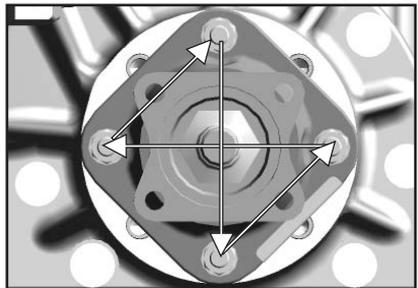

Fig. 6
- e. Tighten and torque in pattern shown in **Fig. 6**. Torque to 55 - 60 Lbs. ft. [75 - 81 N.m.]